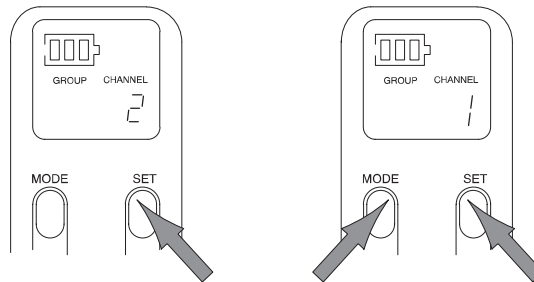

FIGURE 28
- To reverse the direction of the Group or Channel search, hold down the SET button and press the MODE button. See Figure 28.